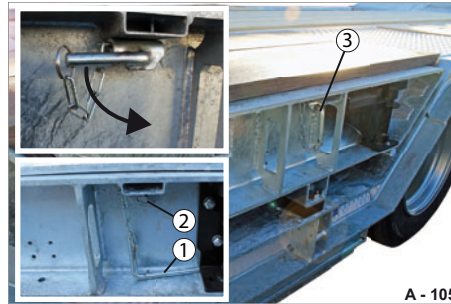

Fig. 114 Small wheel cavity, secured
► Insert the locking pin (Fig. 114/1) into the bore hole (Fig. 114/2) horizontally.